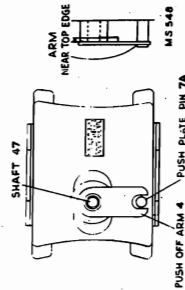

FIG. 7
- Place push-off arm 4 over push-off cam shaft 47, and engage push-off plate pin 7A near the top edge, fig. 7. Tighten set screws.